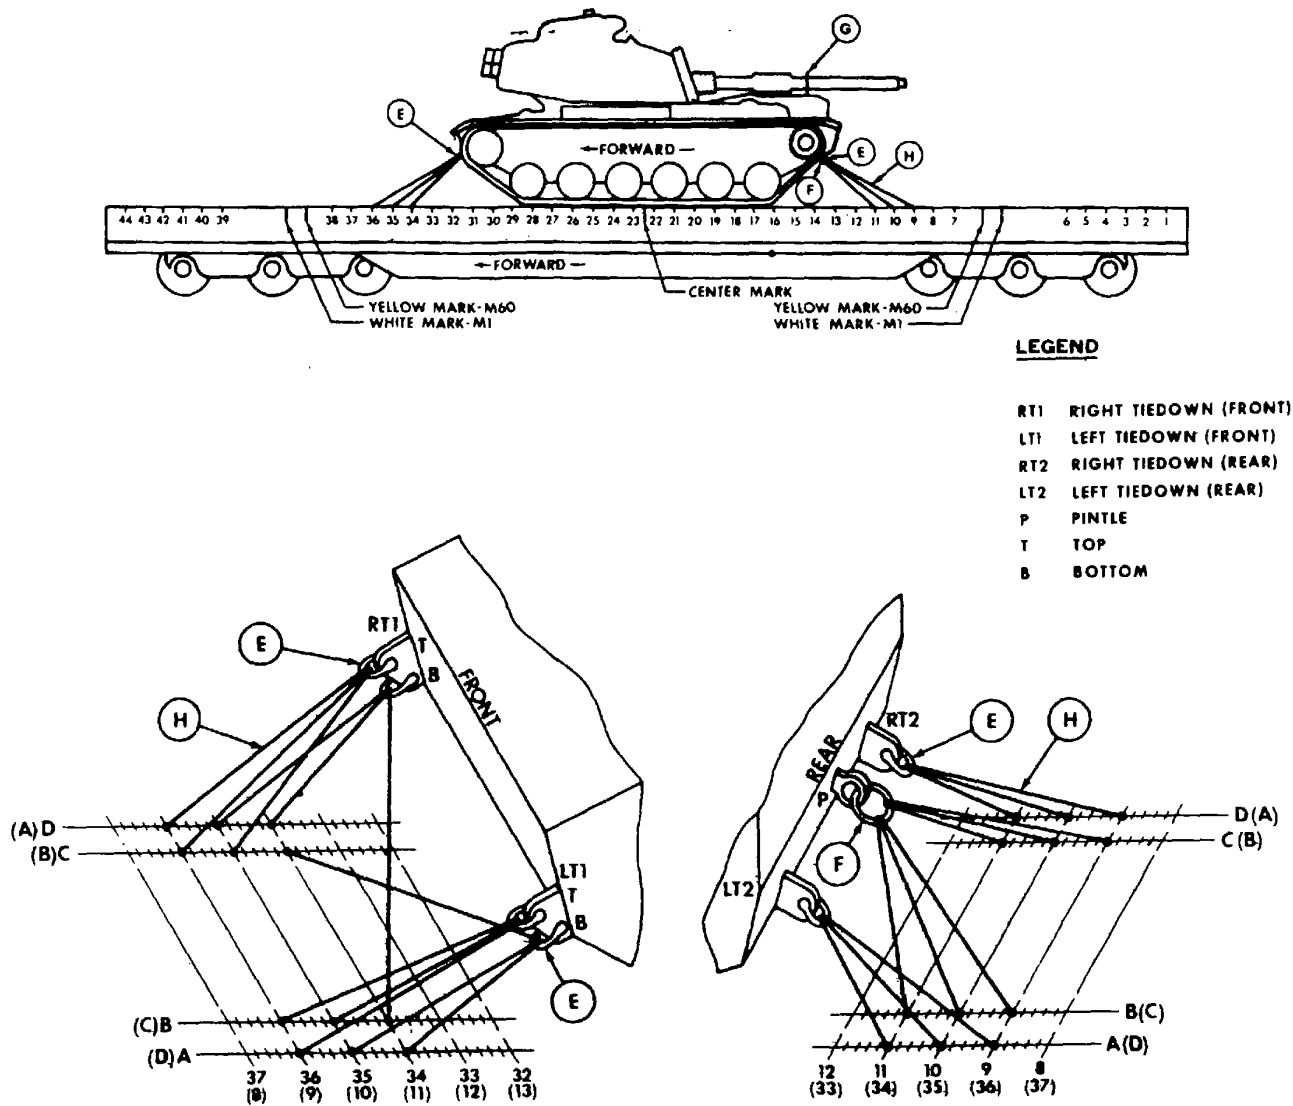
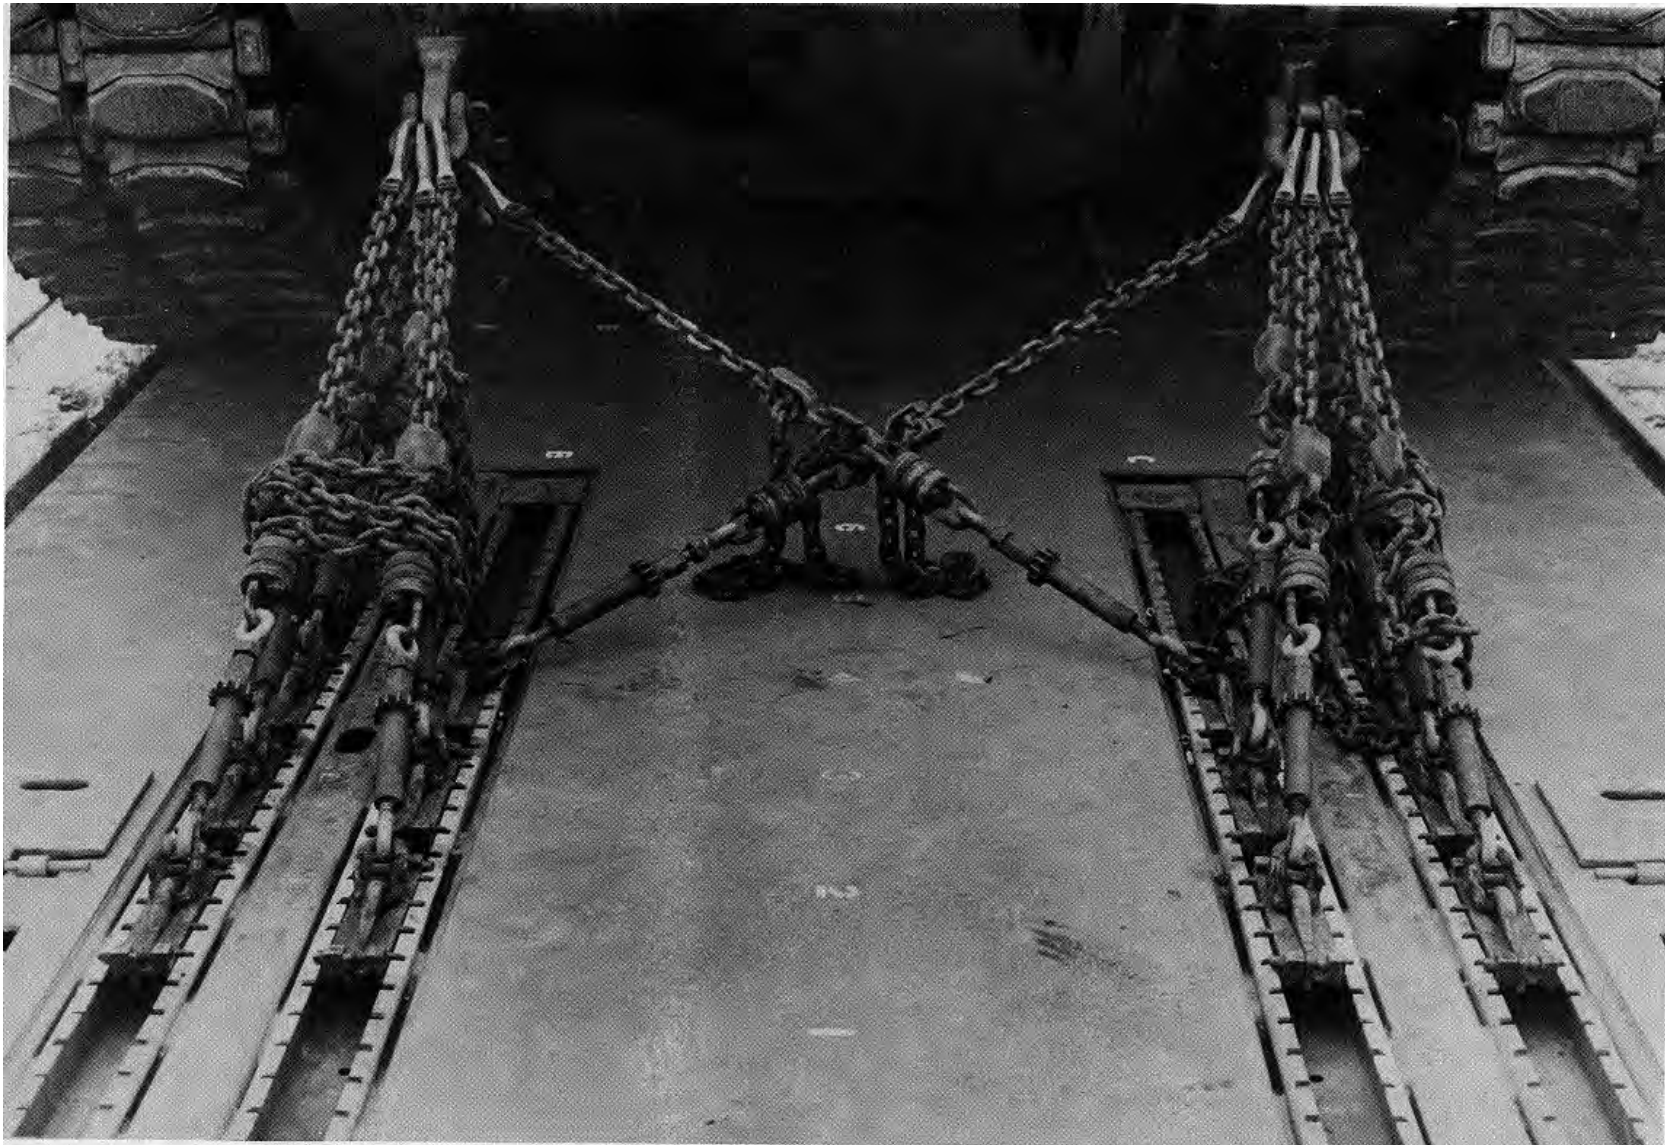

Figure 5-1. Chain tiedown arrangement for one M60 tank.
Figure 5-2. Front view of M60 tank loaded and restrained on 140-ton DODX flatcar.
a. A single M60 tank can be loaded onto the flatcar either by being driven onto the car over an end-loading ramp or by being lifted onto the car with a crane or cranes of at least 60-ton capacity. The tank must be centered on the car, with about equal overhang of its tracks on both sides of the car. A difference of 1 inch between the left-side and right-side overhang is the maximum permitted by many railroad load inspectors. The tank must be positioned so that the white mark at the center of the flatcar side is centered between the third and fourth roadwheels. The chain tiedown arrangement for a single M60 tank is shown in figure 5-1. Front and rear chain arrangements are shown in figures 5-2 and 5-3, respectively. The bill of materials required to secure each M60 tank on the flatcar is provided in table 5-1. The application of the materials and chain tiedowns for a single M60 tank is explained in table 5-2.
b. Two M60 tanks can be loaded onto the flatcar by being driven or lifted onto the car. Both tanks are generally positioned facing the same direction and secured as shown in figure 5-4. Also, both tanks must be centered over the centerline of the car so that the track overhang is about equal on both sides. Each tank will be positioned so that the center of the roadwheel nearest the end of the car is lined up with the yellow mark on the side of the flatcar, as shown in figure 5-4. The application of chain tiedowns for two M60 tanks facing the same direction is explained in table 5-3. If one or two M60 tanks are loaded facing the opposite direction from that shown in figures 5-1 and 5-4, the chain tiedowns for one tank will be applied as explained in table 5-4; or for two tanks, table 5-5.
a. A single M728 combat engineer vehicle must be positioned at the center of the flatcar in the same location as the single M60 tank shown in figure 5-1. The rear of this M728 vehicle must be tied down according to the same pattern as that used for the rear of an M60 tank. The front of the M728 vehicle must be tied down according to the pattern given in the following paragraph for securing one M728 and one M60 tank.
Table 5-2. Application of Materials for Loading and Securing One M60-Series Tank (Fig 5-1)
Table 5-3. Application of Materials for Loading and Securing Two M\$O-Series Tanks (Fig 5-2)
Table 5-4. Application of Materials for Loading and Securing One M60-Series Tank Facing the Opposite Direction from that Shown in Figure 5-1
Table 5-4. Application of Materials for Loading and Securing One M60-Series Tank Facing the Opposite Direction from that Shown in Figure 5-1-Continued